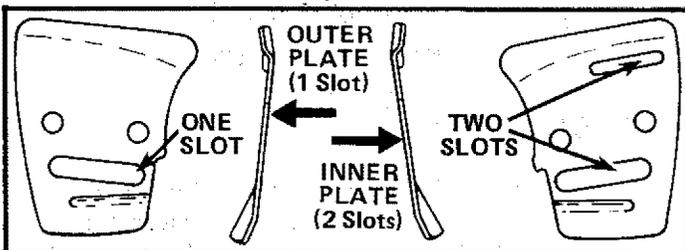

Figure 4
**NOTE:** Be sure the Inner Guide Plate curves or flanges toward the saw frame away from the Guide Bar. Figure 4.